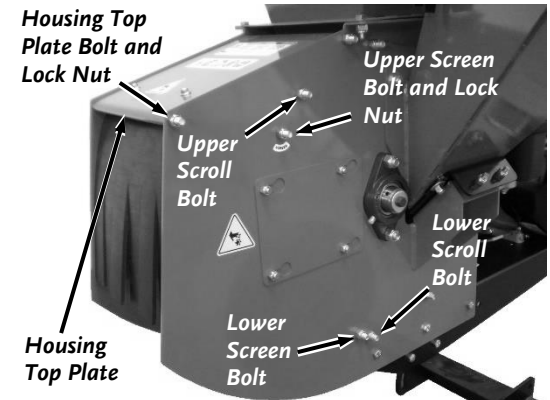

Figure 41
3. Remove the Bolt and Lock Nut securing the Housing Top Plate using two 9/16" Wrenches (**Figure 41**).
26. Reposition the Housing Top Plate and secure with the Housing Top Plate Bolt and Lock Nut (**Figure 41**).